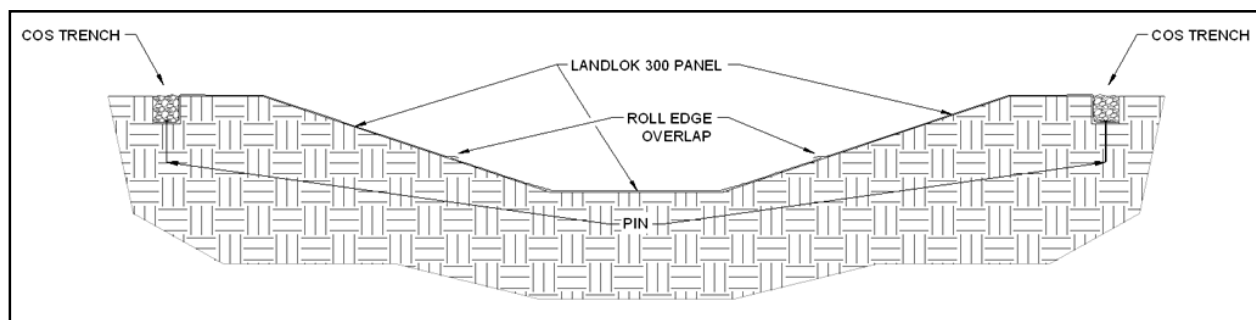

Figure 17: Crest of Slope (COS) Placement
14. Continue to work along the width of the channel by repeating steps 11 through 13 overlapping each adjacent Landlok 300 panel edge by 3 inches (75 mm) (Figure 17). The Landlok 300 panels placed on the crest of the side slopes should terminate their edges in the COS trench with pins on 12 in (300 mm) centers.
15. Place the final Landlok 300 panel edges in the COS trench, ensuring full coverage along the bottom of the entire COS trench with the Landlok 300 (Figure 17).
16. Secure Landlok 300 with pins in the COS trench. Suggested placement of pins for the COS trench is along the bottom of the trench on 12 in (300 mm) centers (Figure 17).
17. Backfill and compact the COS (Figure 17).